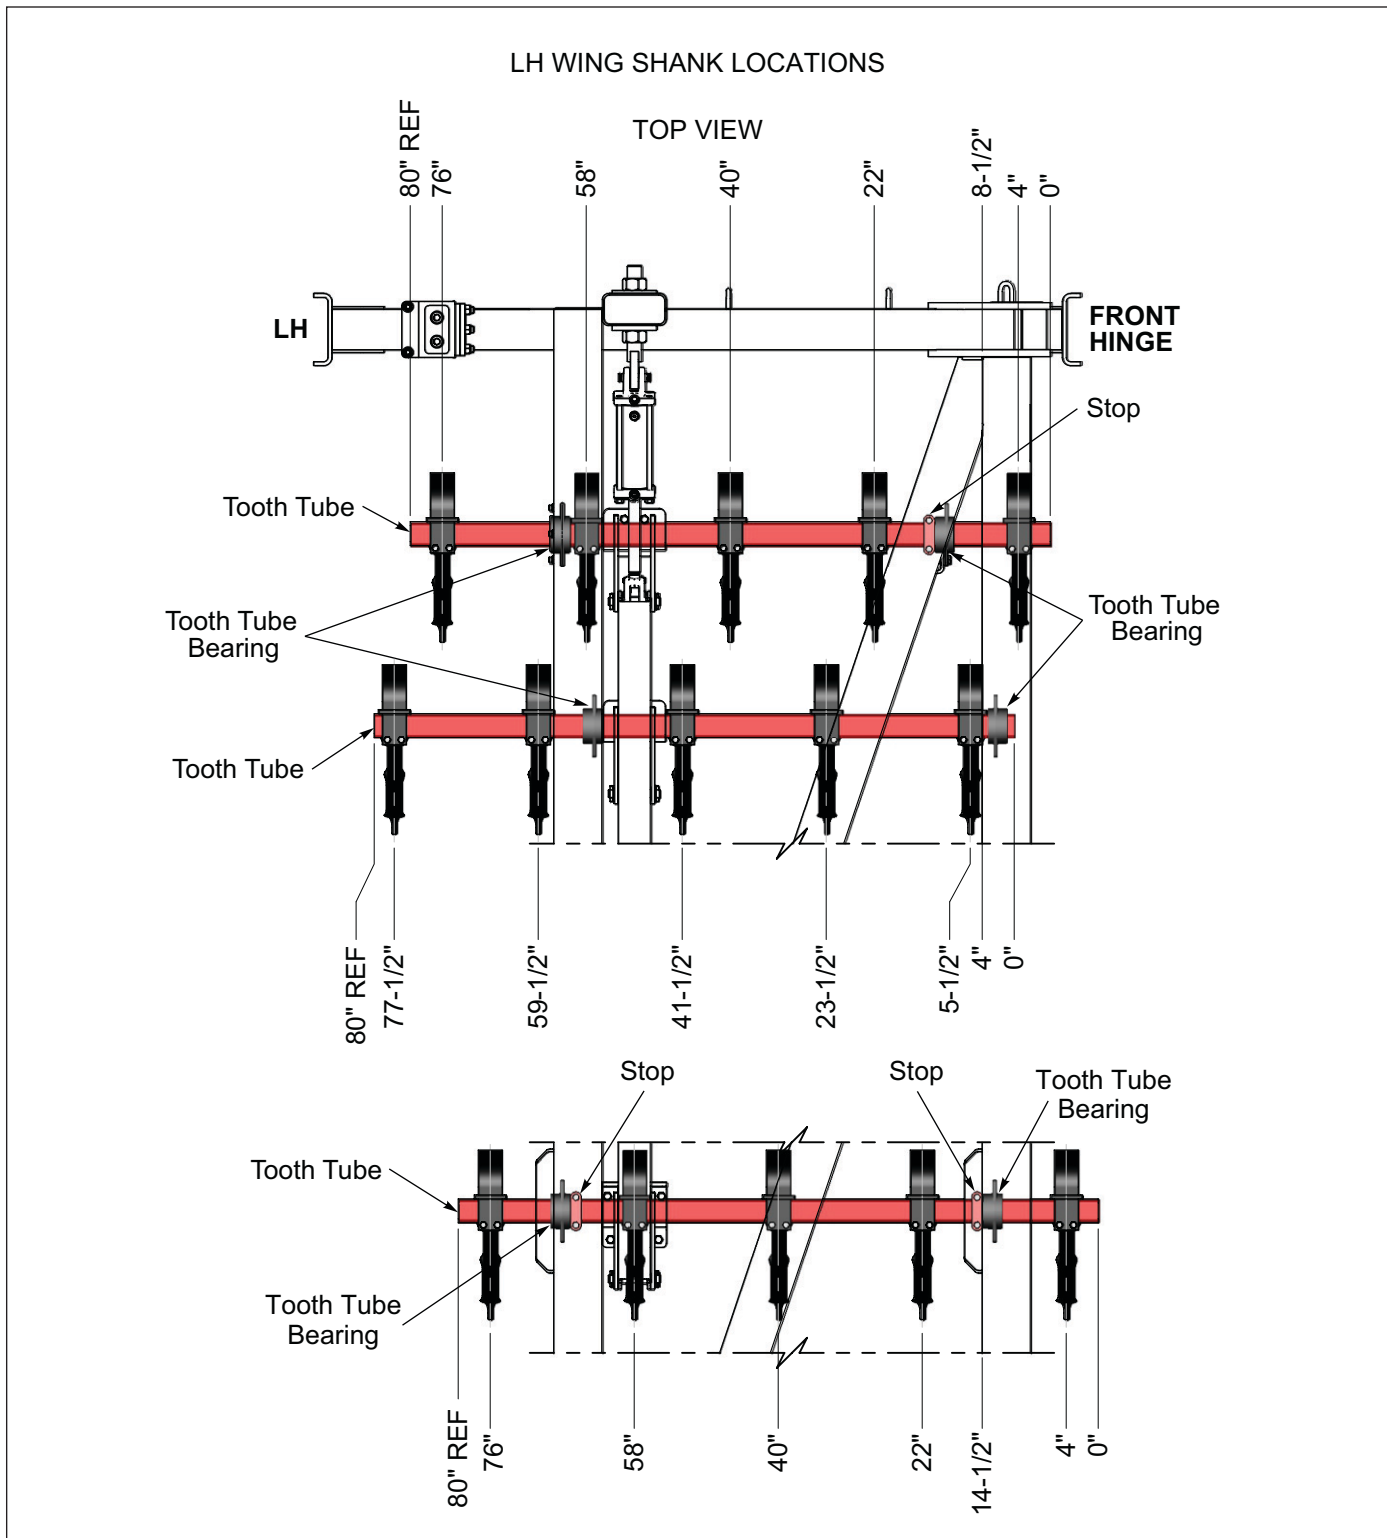

Figure 2-53: Left Hand Wing Shank Mounting Dimensions
1. After marking the tubes for the shank locations, slide the 80" Tooth Tubes into the Tooth Tube Bearings accordingly. See **Figures 2-53 and 2-54**.
3. Mount the Shanks to the Wing Tooth Control Tubes using two 1/2-13 x 5 Bolts and Locknut. **See Figures 2-53 and 2-54** for Left and Right hand Shank Mounting Dimensions.